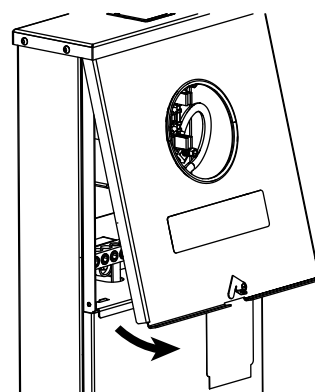

Figure 3-2. Tilt Cover
- b. See Figure 3-2. Tilt cover as shown and pull away from enclosure.